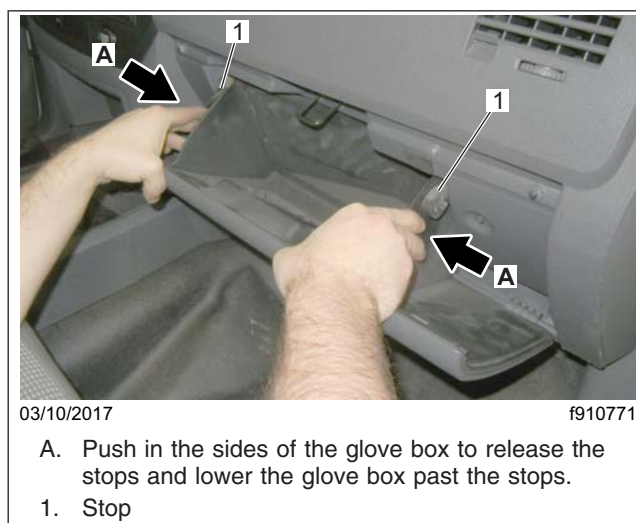

Fig. 2, Removing the Glove Box
5.2 Push in the sides of the glove box to release the stops and lower the glove box past the stops. See Fig. 2.
- 23.2 Push in the sides of the glove box and raise it past the stops. See Fig. 2.